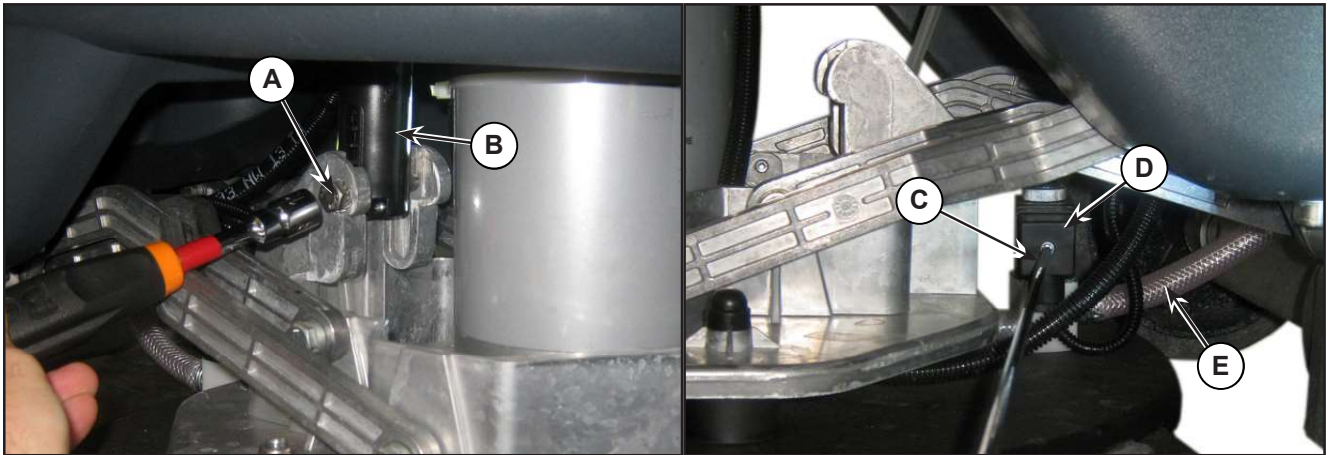
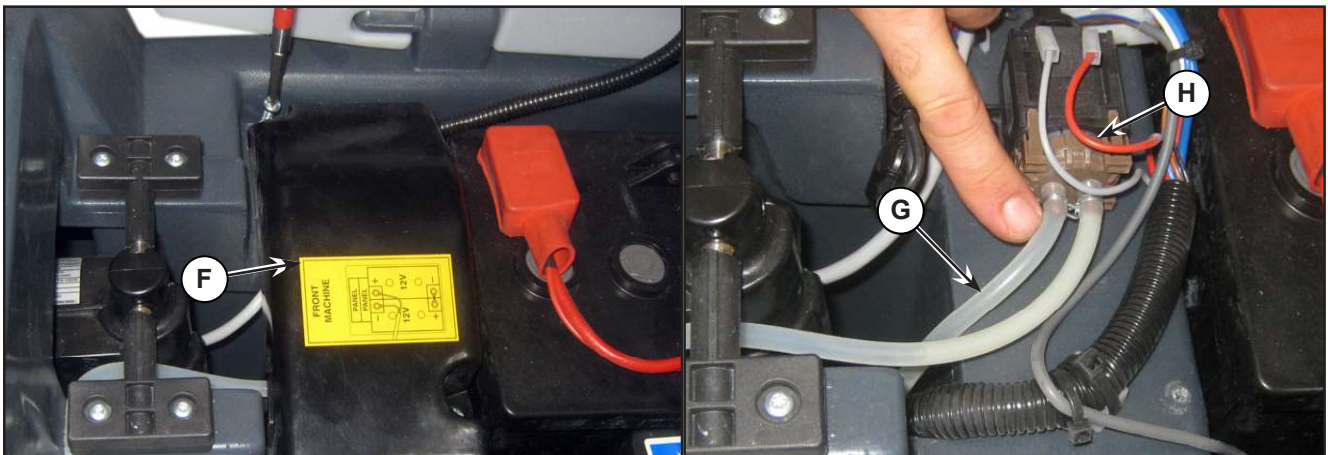

Figure 7:
Figure 8:
6. Undo the screw (A) (Figure 7) on the pin of the actuator (B); retain the bushing.
7. Unscrew and disconnect the connection (C) on the solenoid valve (D).
8. Disconnect the detergent supply hose (E) from the solenoid valve.
9. Remove the cover (F) (Figure 8), then disconnect the hose (G) from the detergent pump (H).